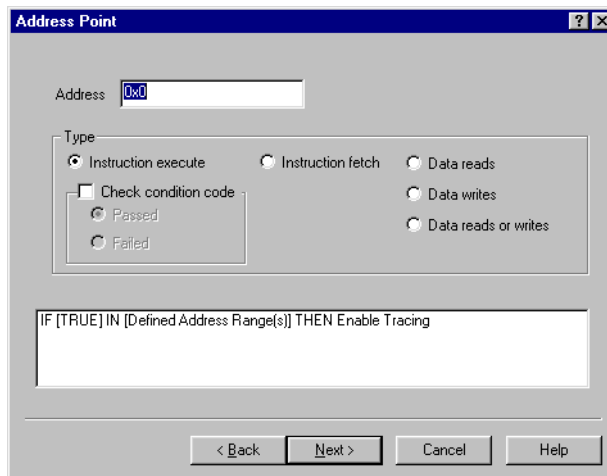

Figure 5-11 Include Address Point dialog box
4. Click **Next>**. The Include or Exclude Address Point dialog box is displayed, as shown in Figure 5-11 on page 5-22.
3. Click **Next>**. The Address Point dialog box is displayed. This looks and behaves like the Include or Exclude Address Point dialog box (Figure 5-11 on page 5-22).